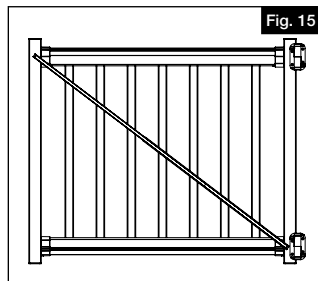

Fig. 15
- Extend brace across gate to the uprights, noting one side will be adjacent to hinge (Fig. 15).